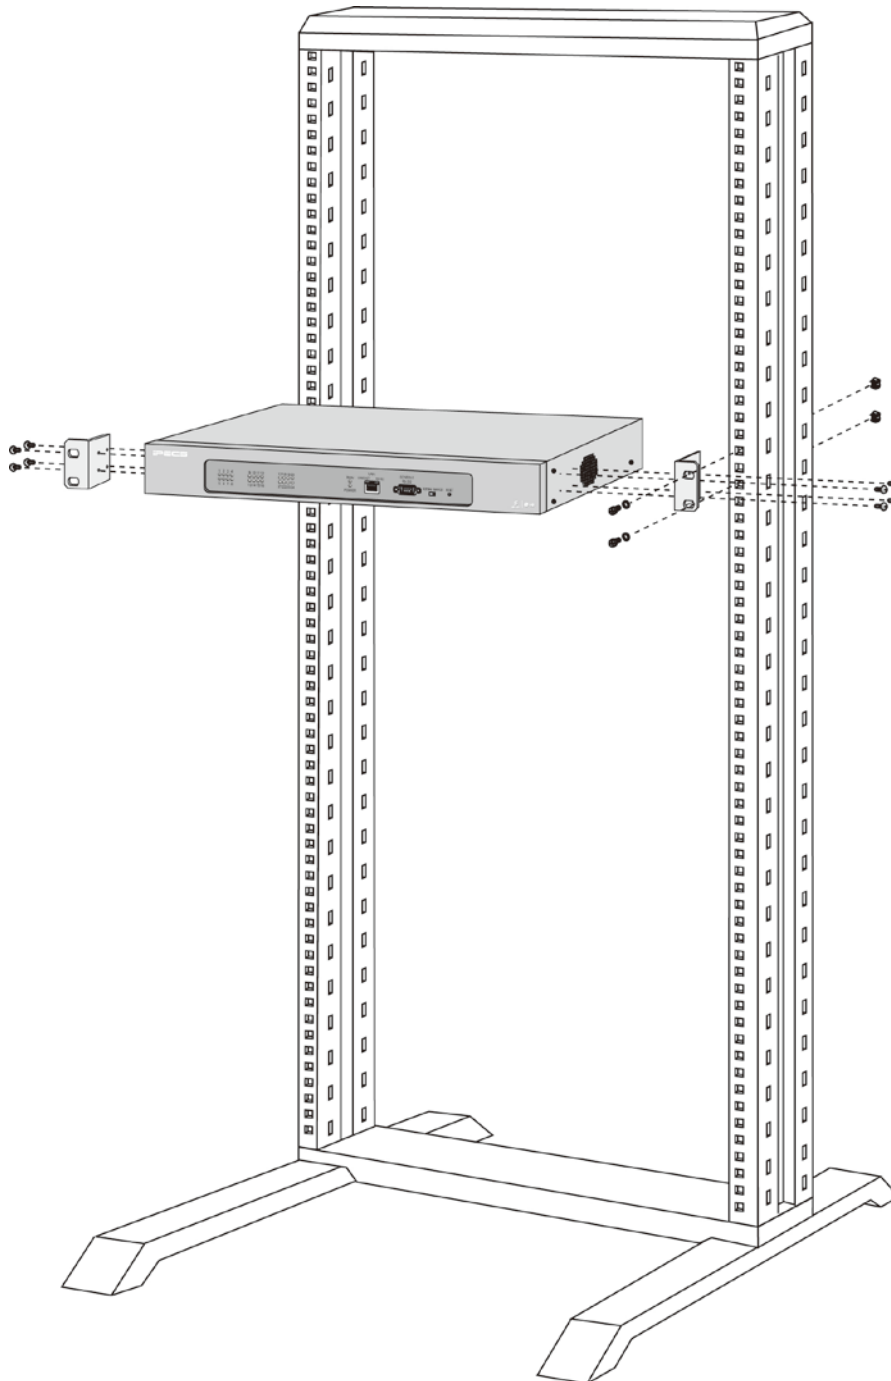

Figure 4.5.8-1 DTIM24 Rack Mounting Installation
- Mount the left and right mounting brackets to the DTIM24 module using the eight (8) machine screws provided as shown in Figure 4.5.8-1.
- Mount the Module with the four (4) machine screws, nuts and washers as shown in Figure 4.5.8-1.
On the rear are one (1) 25-pair RJ-21x style connectors terminated as shown in Figure 4.5.8-2. These connectors should be wired to the Digital terminal termination point as shown in the figure.